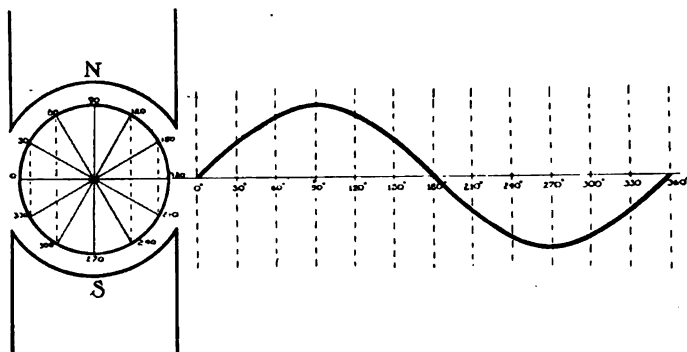

FIG. 440.—Graph showing the e.m.f. changes of a single-phase current for one "cycle."
**439. Single-phase Currents.**—There are several kinds of a.-c. currents. One of the most common is the *single-phase*. It is simply the common a.-c. current used for light and power in the average home, and uses a two-wire circuit around which the current is rapidly alternating. Fig. 440 illustrates the changes of e.m.f. in an a.-c. single-phase current. It may be produced by a single coil rotating in a magnetic field. The curve of Fig. 440 represents one *cycle*, that is, one complete series of changes in